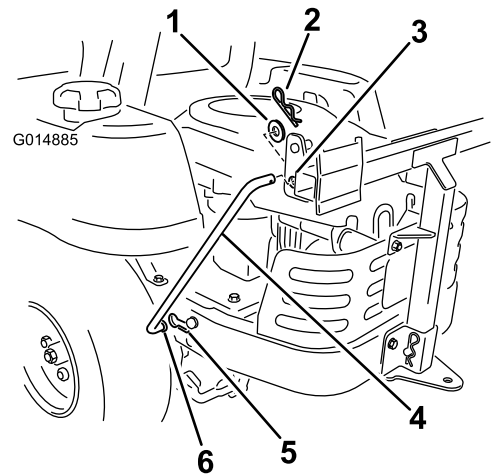

Figure 15
6. Insert the bent ends of the rod into the bagger frame as shown in Figure 15. Secure the end of the rod with a washer and hair pin.